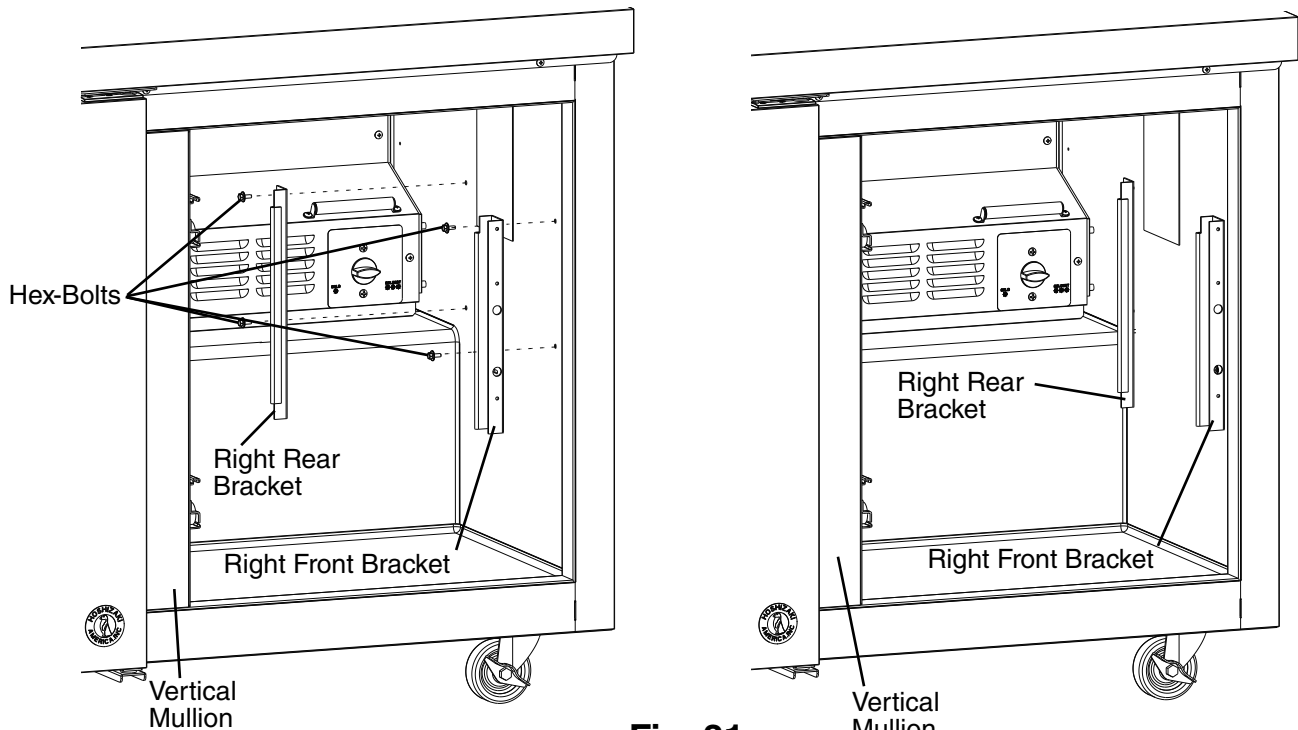

**Fig. 30**
22) Place the left drawer frame in the appliance and align under the left rear bracket and tighten, then align under the left front bracket and tighten. See Fig. 30.